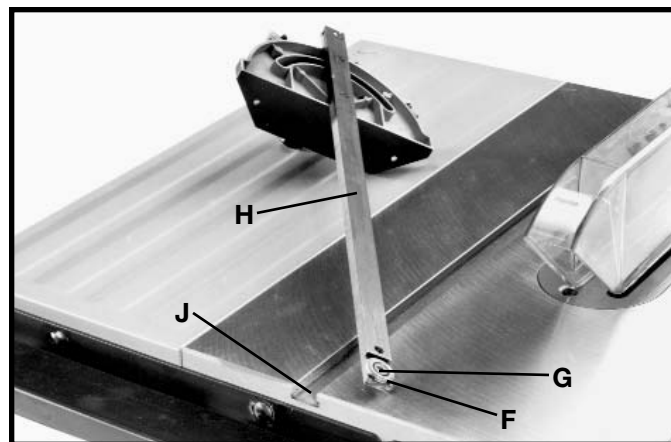
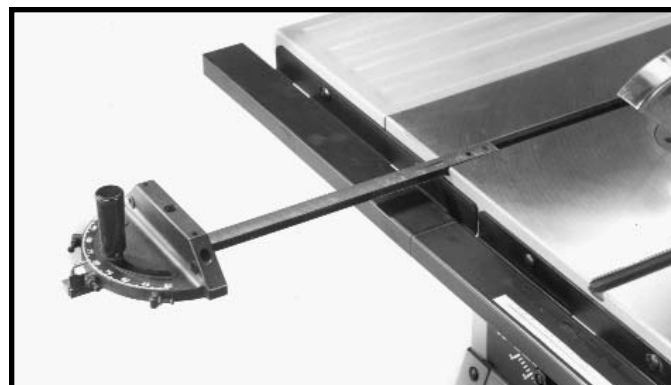

Fig. 45
Fig. 46
3. The miter gage is equipped with a special washer (F) Fig. 45, and a flat head screw (G) which are assembled to the bottom end of the miter gage bar (H). The special washer (F) rides in the T-slotted miter gage slot (J) and prevents the miter gage from falling when it is extended out beyond the front of the saw table, as shown in Fig. 46.